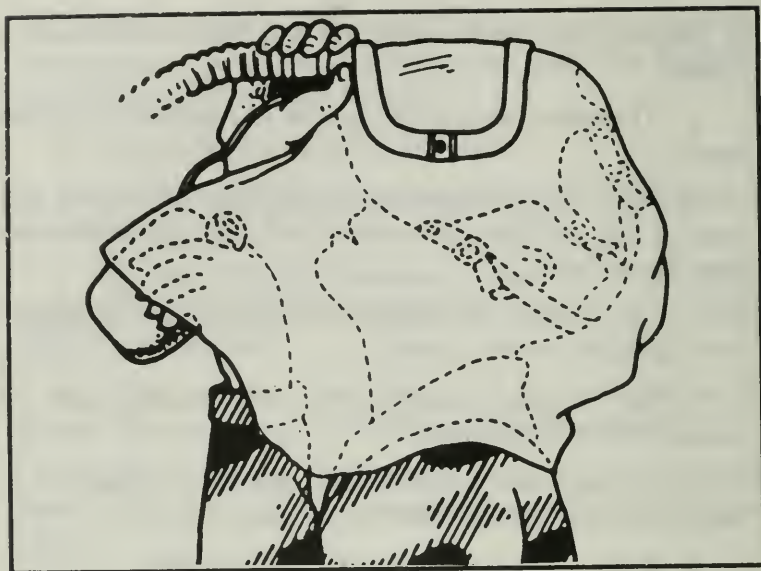

Figure 319. Drink water while wearing the M24 or the M25-Series mask.
(1) Check the canteen for liquid contamination with M8/M9 detector paper.
(2) If the canteen is contaminated, seek an uncontaminated canteen.
g. Pull your mask down, out, and up away from your face, so that you can get the canteen to your mouth (Figure 319).